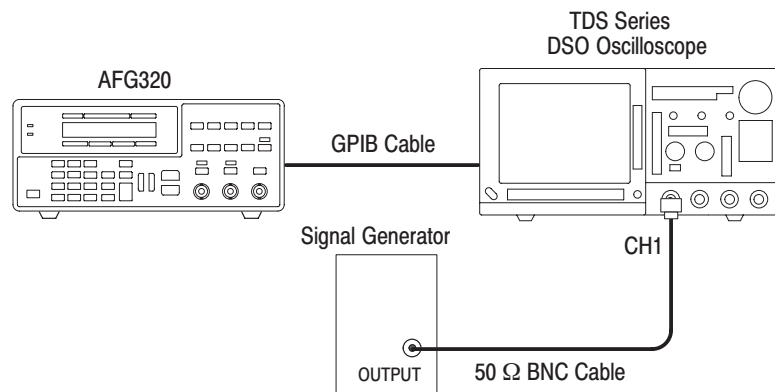

Figure 2–31: Hookup for Importing Waveform
1. Connect the AFG320 instrument to an oscilloscope using a GPIB cable. Connect the signal generator to the oscilloscope using a 50 Ω BNC cable with a 50 Ω termination as shown in Figure 2–31.